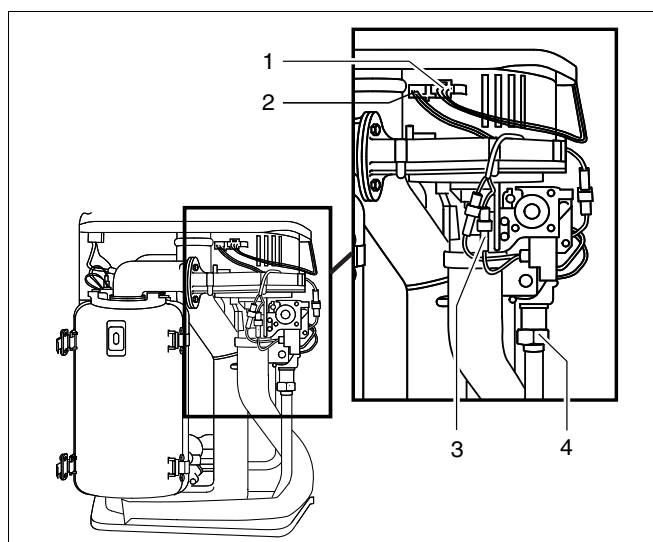

Fig. 70 Loosen the union nut and remove the cable
- Loosen union nut on gas valve assembly (fig. 70, item 4).
- Release plug-in connection of fan power lead (fig. 70, item 1), burner-control unit fan control lead (fig. 70, item 2) and gas-burner assembly (fig. 70, item 3).